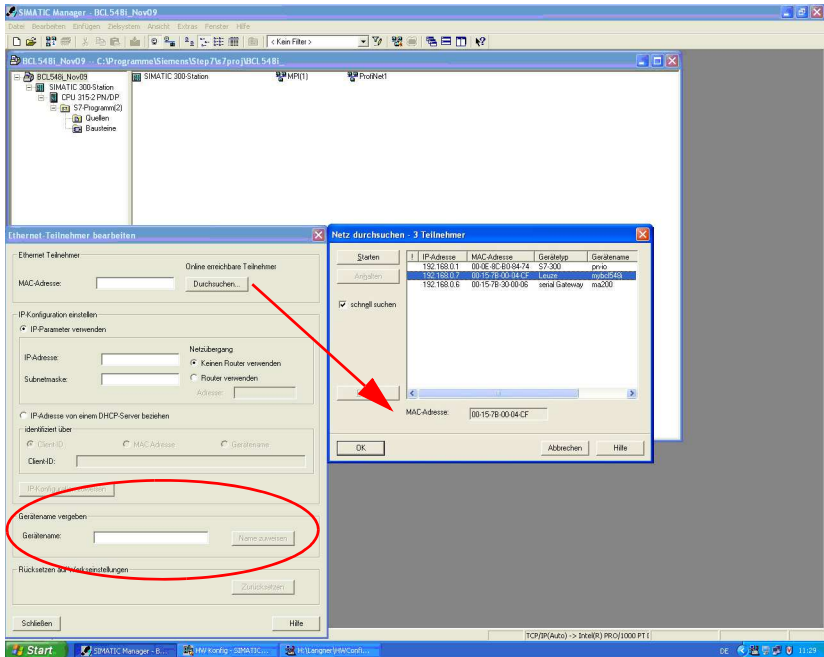

Figure 10.4: Assigning the device names to the configured IO devices
- Assignment of MAC address - IP address -individual device name (Figure 10.4)